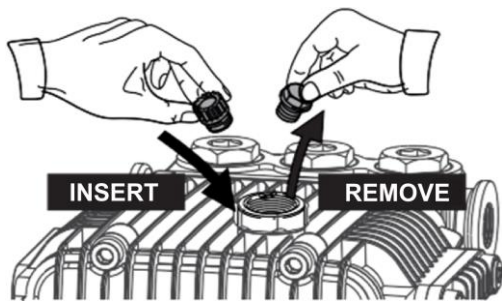

Fig. 5
- Insert the pump vent cap to the pump. See Fig. 5 for illustration.